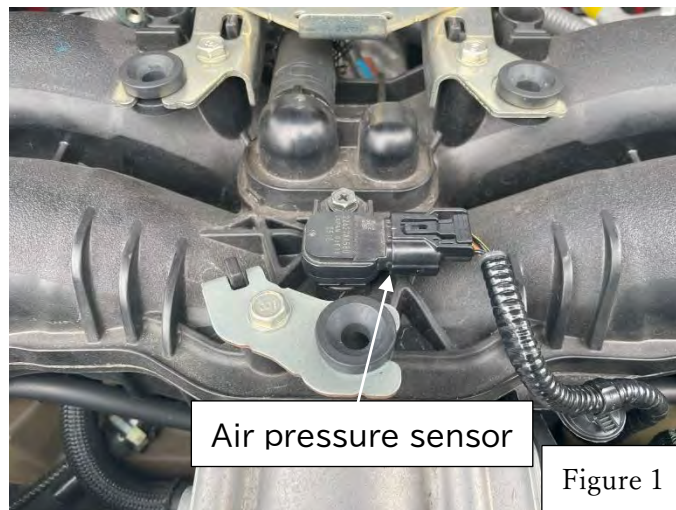

Figure 1
- (1) Disconnect the cable terminal from the negative terminal of the battery.
- (2) Remove the engine cover.
- (3) Remove the Air pressure sensor. (Figure 1)